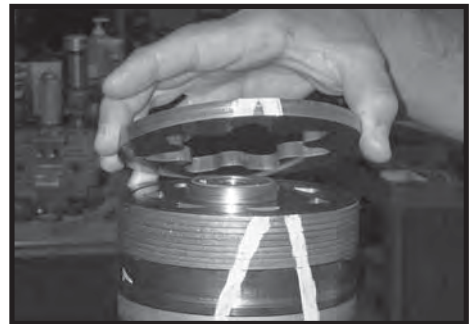

Figure 9
7. Remove commutator ring (6). SEE FIGURE 9. Inspect commutator ring for cracks, or burrs.